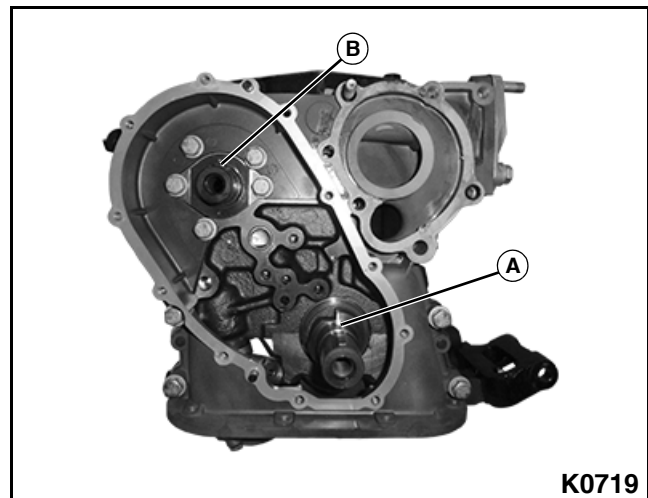

Figure 3-182
1. Rotate the crankshaft to bring the crankshaft key to the top position (A). See Figure 3-182.
2. Rotate the camshaft to align the camshaft key with the timing mark at the top of the thrust plate (B).